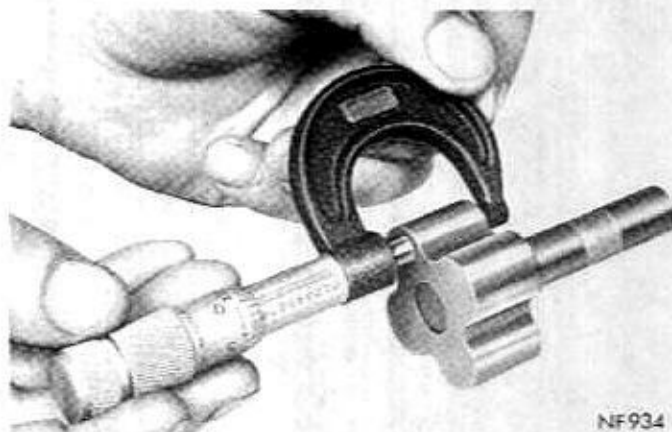

Fig. 49—Measuring Inner Rotor Thickness
(4) Measure thickness of inner rotor.
(5) If inner rotor measures less than .825 inch, a new inner rotor should be installed (Fig. 49).